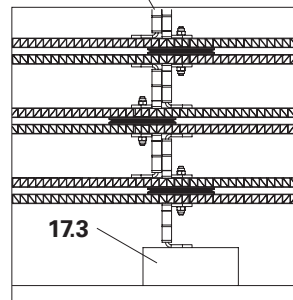

Fig. A4.01a
- Assemble the stack so that the Washers CAW (17.3) lie exactly on top of each other. (Fig. C4.01 + Fig. A4.01a)